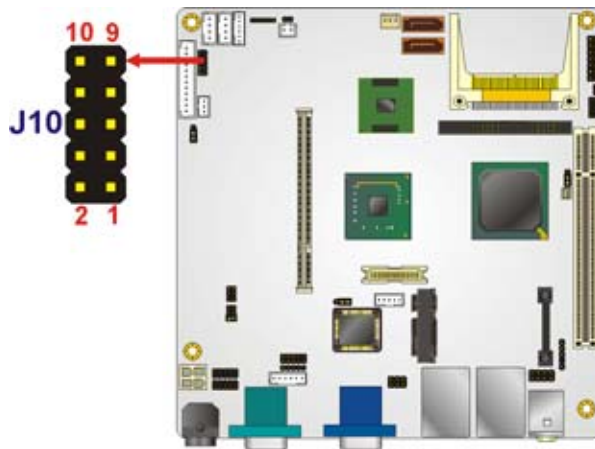

Figure 4-13: MCU LAN Connector Location
- CN Location:** See Figure 4-13